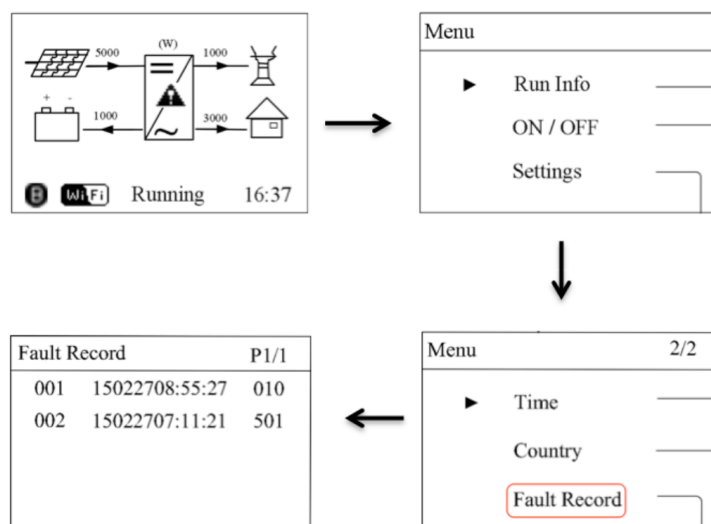

Figure 1: inverter fault records
5. Tap ESC/down (for less than half a second) to view the current faults (if any, see Figure 1) and take a photo of the screen.